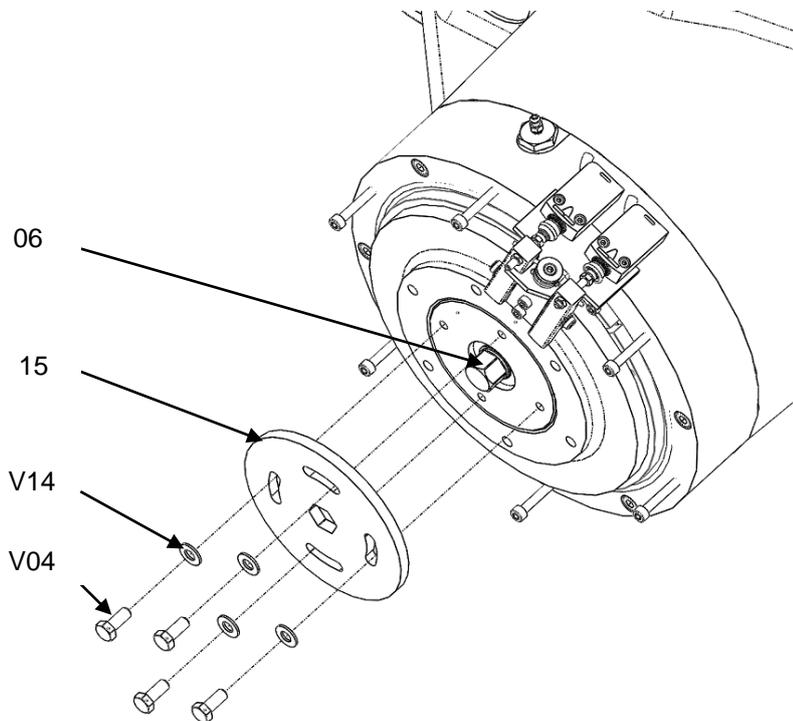

Fig. 5.4
4. Unscrew and remove the 4 screws **V04** and 4 washers **V14** Fig.5.4.
5. Remove the locking washer **15** to free the wear take up screw **06** Fig.5.4.
2. Cover being removed, unscrew and remove the allen screws **V04** and washers **V14** Fig. 5.4 see chapter 5.3